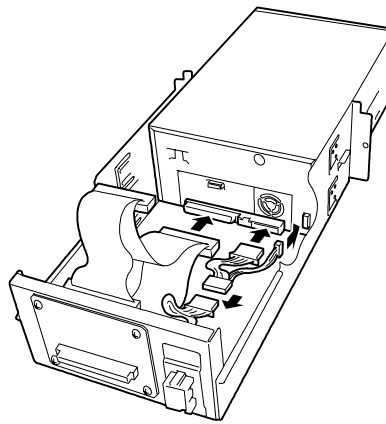

Figure 4-47. Connecting the Power and Data Cables
- Insert the device halfway into the media bay and connect the power and data cables to the device, see Figure 4-47.